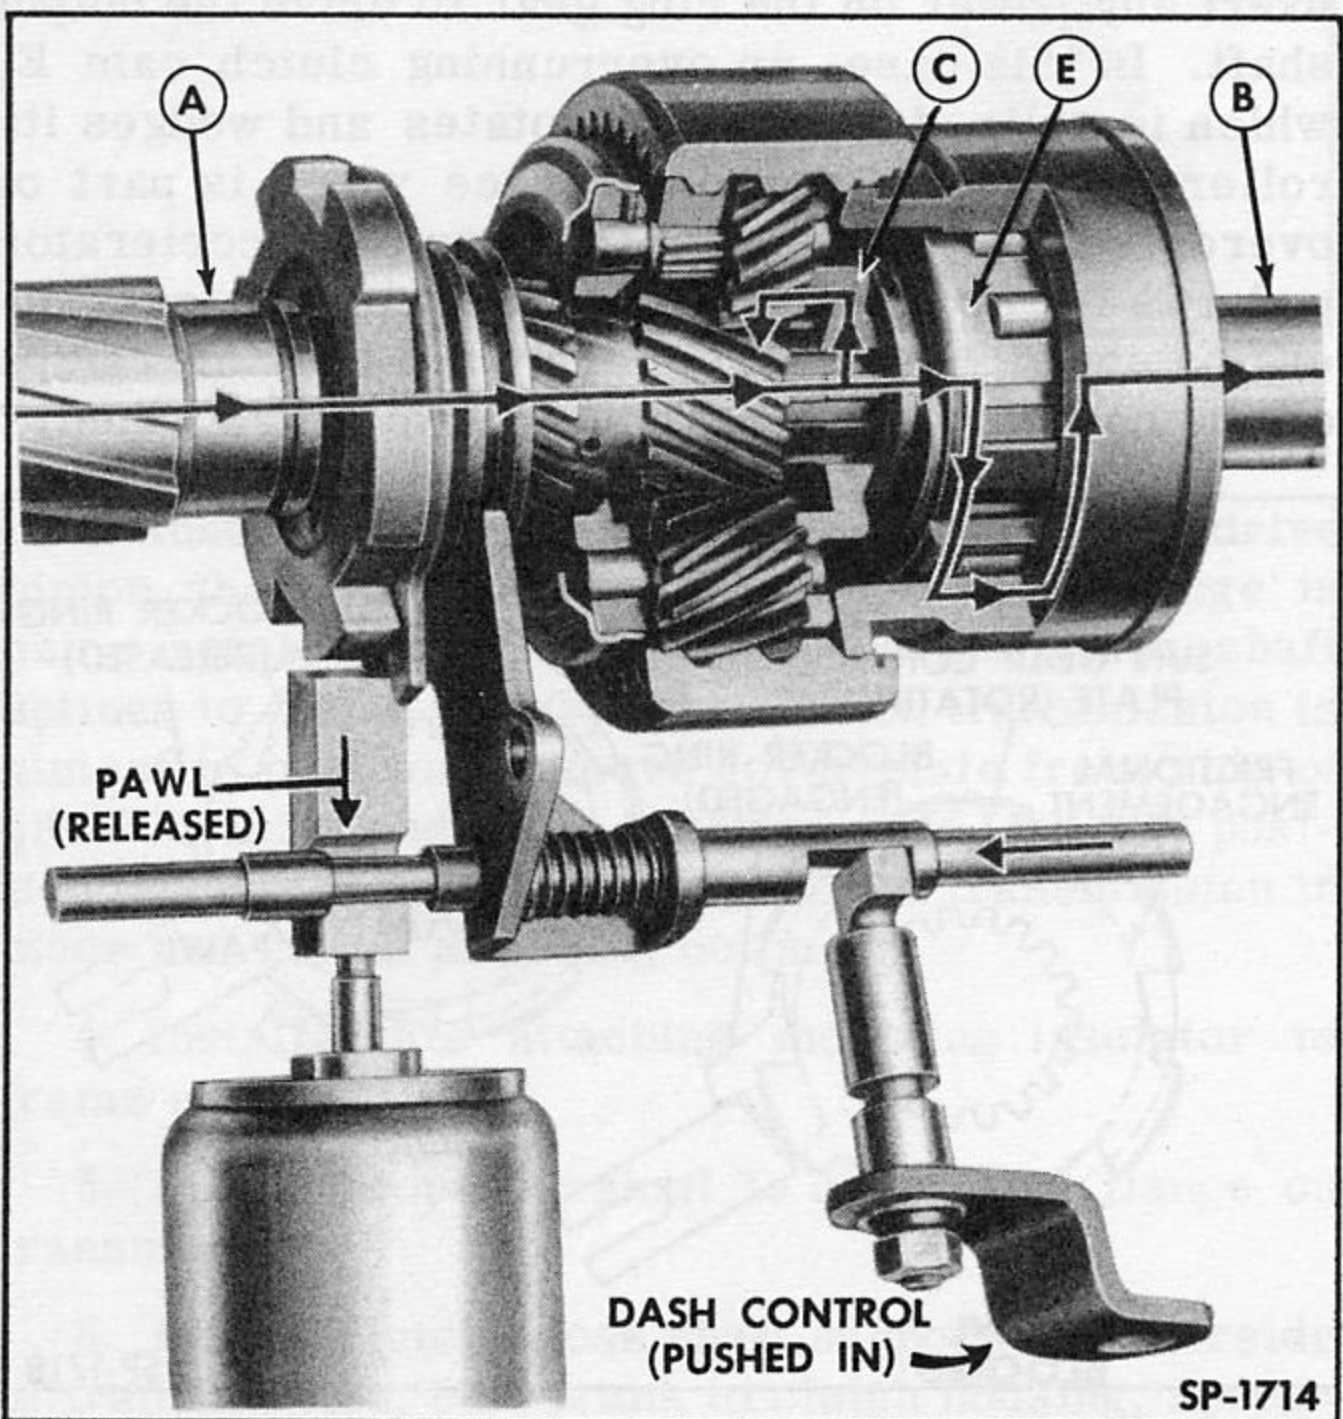

Fig. 142—Free Wheeling Direct Drive
2. SLOW SPEEDS. When the vehicle has not reached 29 MPH or has slowed down below 23-1/2 MPH, the governor switch will be open, therefore the solenoid operated pawl will not be engaged. Power flow will start from transmission mainshaft A (Fig. 142) to pinion cage C. The sun gear is not held stationary by the pawl, therefore the pinion gears cannot exert any power on the ring gear to drive the output shaft. In this case, an overrunning clutch cam E, which is splined to shaft A, rotates and wedges its rollers against clutch outer race which is part of overdrive unit mainshaft B. When the accelerator pedal is let up and the rear wheels tend to overrun engine speed, the rollers merely fall back off ramps on the cam and allow rear wheels to "free wheel."